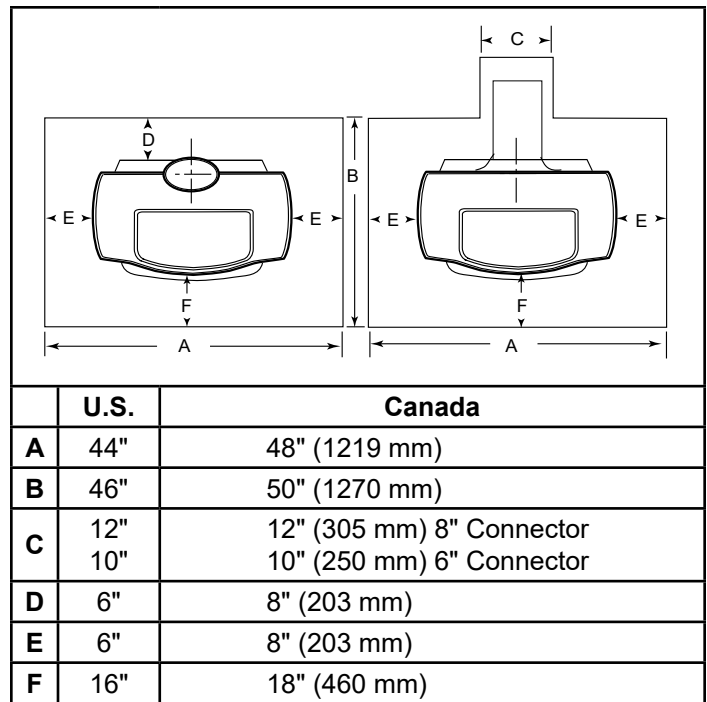

Figure 2.10 - Required floor protection dimensions.
**In U. S. installations** the floor protector is required under the stove and must extend at least 16" (not including the ash lip) from the front of the stove ("F," Figure 2.10), and at least 6" from the sides and rear. ("D" and "E," Figure 2.10)
In rear venting configurations, floor protection must also extend under the chimney connector and 2" to either side. ("C," Figure 2.10) For the 8" (203 mm) connector, the protector must be a minimum of 12" (305 mm) wide. For the 6" (152 mm) connector, the protector must be 10" (254 mm) wide. The protector must be centered under the connector.
**In Canada:** A noncombustible floor protector is required under the stove as well. The floor protector must extend 18" (457 mm) to the front ("F," Figure 2.10), and 8" (203 mm) from the sides and rear. ("D" and "E," Figure 2.10)